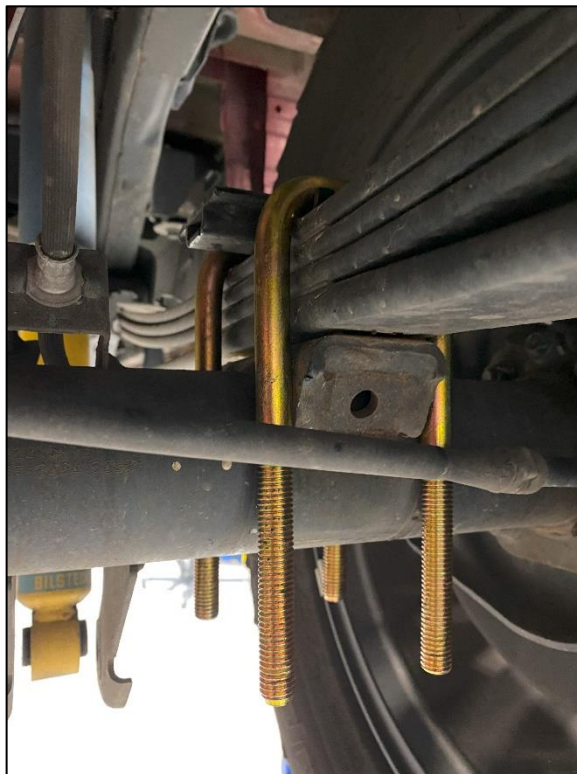

Figure 5
10. Install the Extended U-Bolts onto the Shackle, but do not install the Rear Spring Pad yet. *Figure 5.*